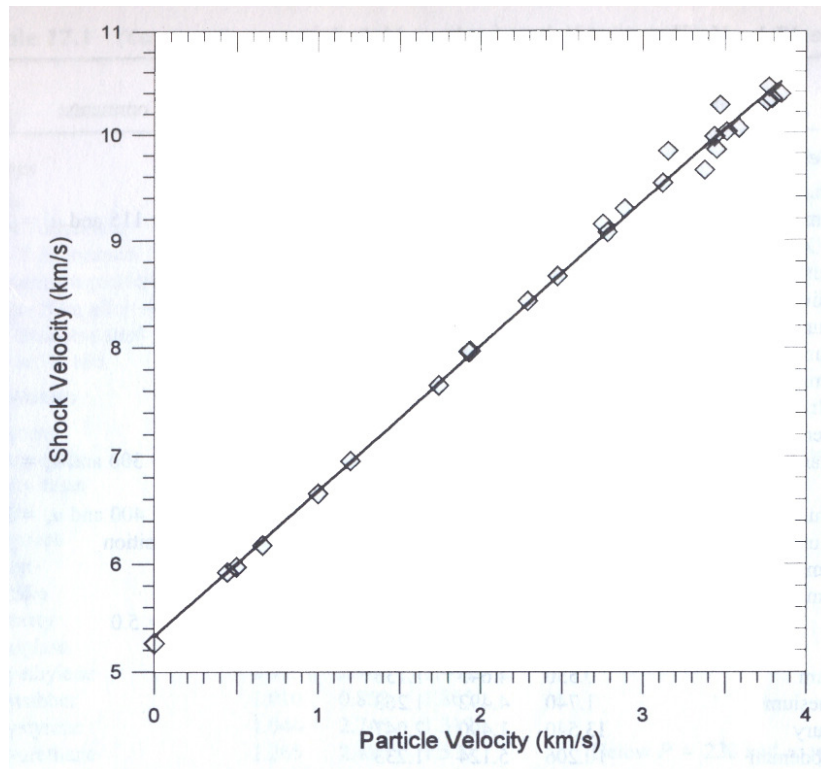
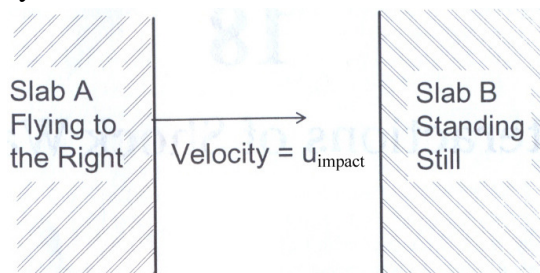

Fig. Q4-1
Fig. Q4-2
Q4 Fig. Q4-1 shows the experimental data (open diamond symbols) of shock Hugoniot of 6061 aluminum in the shock-particle velocity plane. The density of 6061 aluminum under undisturbed state is $\rho_0 = 2.703 \times 10^3 \text{ kg/m}^3$.
- (1) Experimental results show that the shock velocity D is linearly related to the particle velocity u for lots of materials, and can be expressed as $D = c_0 + su$. Determine the value of c_0 and s for 6061 aluminum from Fig Q4-1. (1 marks)
- (2) In Fig. Q4-2, slab A is flying towards slab B at a velocity $u_{\text{impact}} = 4 \text{ km/s}$. After impact, slab A continues to press upon slab B, sustaining the pressure. Both slabs A and B are made of 6061 aluminum, the material shown in Fig. Q4-1. Calculate: